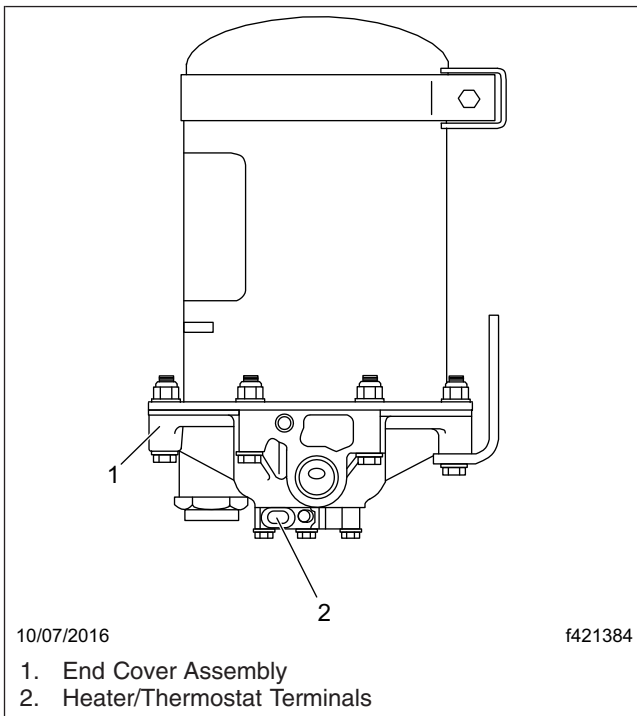

Fig. 5, End Cover Terminals Location
8. Use an ohmmeter to check resistance between the terminals on the end cover. See **Fig. 5**. The end cover contains the heater/thermostat. If the heater/thermostat is between 40 and 90°F (5 and 32°C), the heater/thermostat measured resistance will be infinite ohms. If the measured resistance is less than infinity, replace the heater/thermostat.